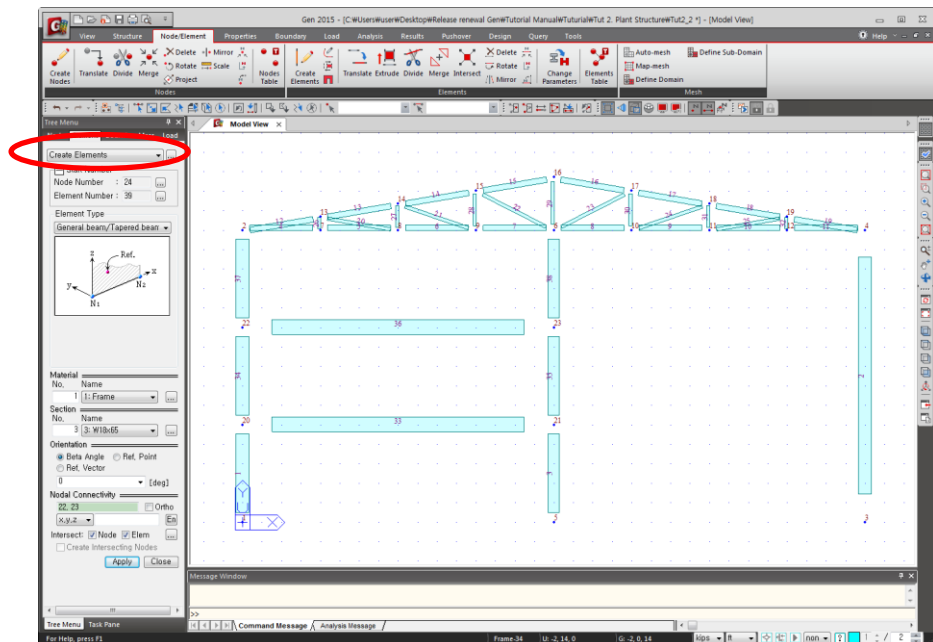

Figure 2.8 Generation of Floor Girders
3. Select **Create Elements** in the function list (Fig.2.8–1).